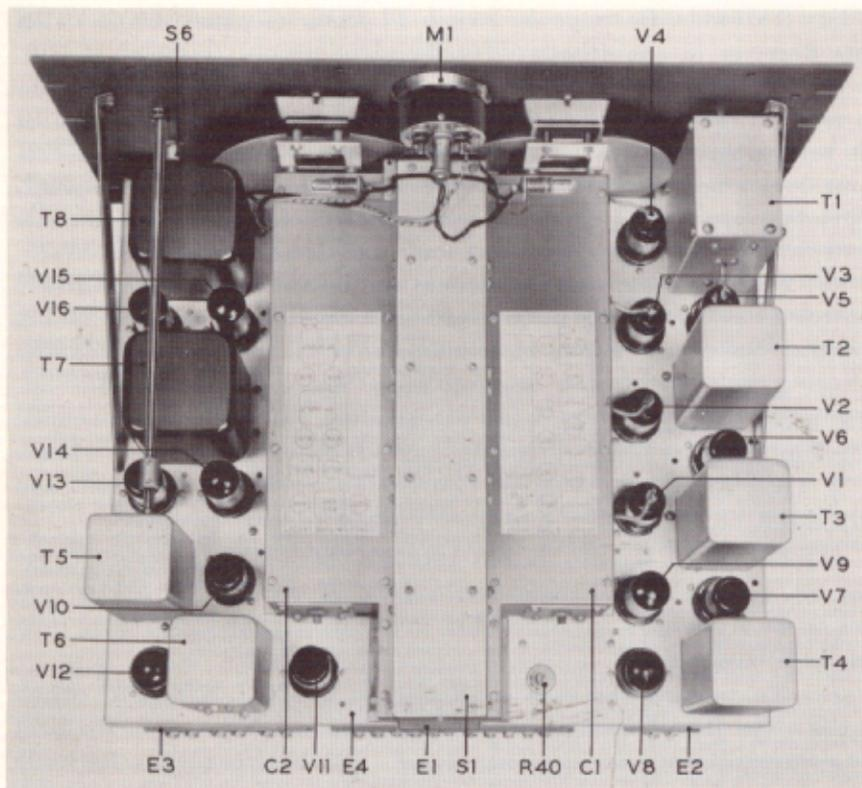

FIG. 7—Top-chassis view showing arrangement of components.
The proper location of these tubes is shown in FIG. 7 and on the diagram attached to the top of the tuning unit. Make sure that tubes V1, V2, V3, V4 and V5 have leads connected to their grid caps.
*h. S-Meter Tuning:* The S-meter (M1, FIG. 2), a tuning guide, operates only when the Receiver is set for AVC. Its reading increases as the Receiver approaches resonance with the incoming signal. Exact resonance is shown by the greatest reading of the meter. BAND WIDTH control must be set at 3 for accurate tuning by means of the meter. A screwdriver adjustment (R40, FIG. 7) at the rear of the chassis varies the resistance in shunt with the meter. By means of this adjustment, an "S9" reading may be obtained on any input between approximately 10 and 10,000 microvolts. The normal factory adjustment is made on an input of 50 microvolts, and when so adjusted each "S" number represents a change in signal input of approximately 6 decibels, or a ratio of two-to-one.